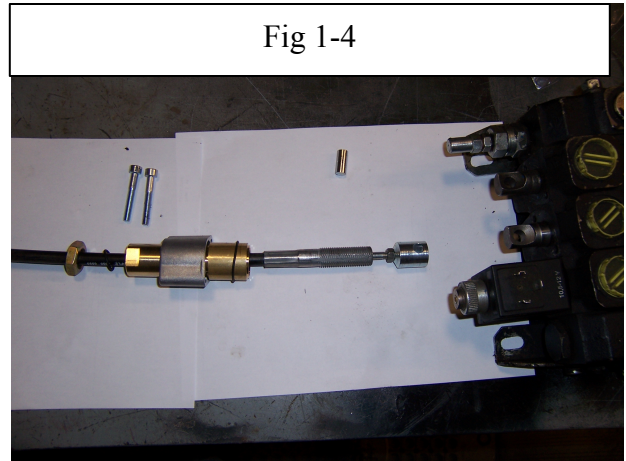

Fig 1-3
7. Then custom fit the handle bracket adapter plate (Part #7) onto the front right corner just ahead of the side counsel (approximately 2") in the cab of the tractor. Attach with three 3/8" x 1 1/2" HH cap screws, lock washers and nuts (Part #19, 24 & 27). You need to drill three holes thru the cab floor to mount stand in the cab floor just ahead of the side counsel. Then attach this assembly to the handle bracket adapter plate (Part #6) with two 3/8" x 1 1/4" HH cap screws, lock washers, and one flat washer (Part #26, 31, 33 & 37). Note: Attach all fasteners loosely to allow for desired adjustment later. Adjust the according brackets to acquire the most desirable position for the joystick handle. **See in Fig. 1-3.**